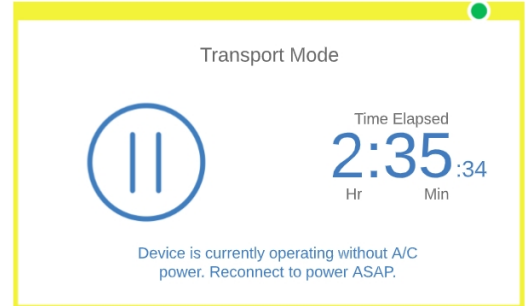

Figure 21. Transport Mode
3. Switch the breaker switch to the OFF position. When the breaker switch is off, the indicator bar will turn yellow and blink and the device will emit an audible chirp. It will also display a message on the screen indicating that the device is operating without A/C power (Figure 21).